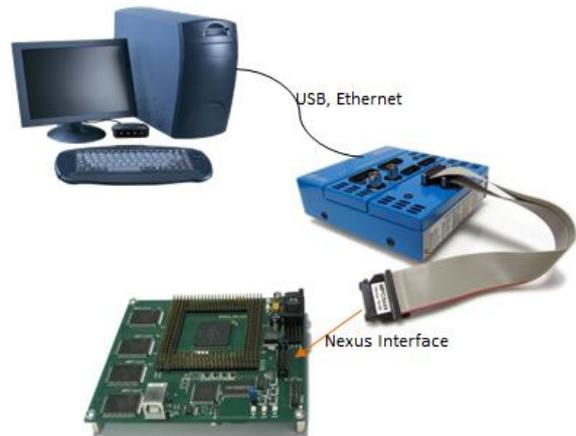

Figure 1: Test Setup over Nexus
- Figure 1: TestSetupNexus.jpg